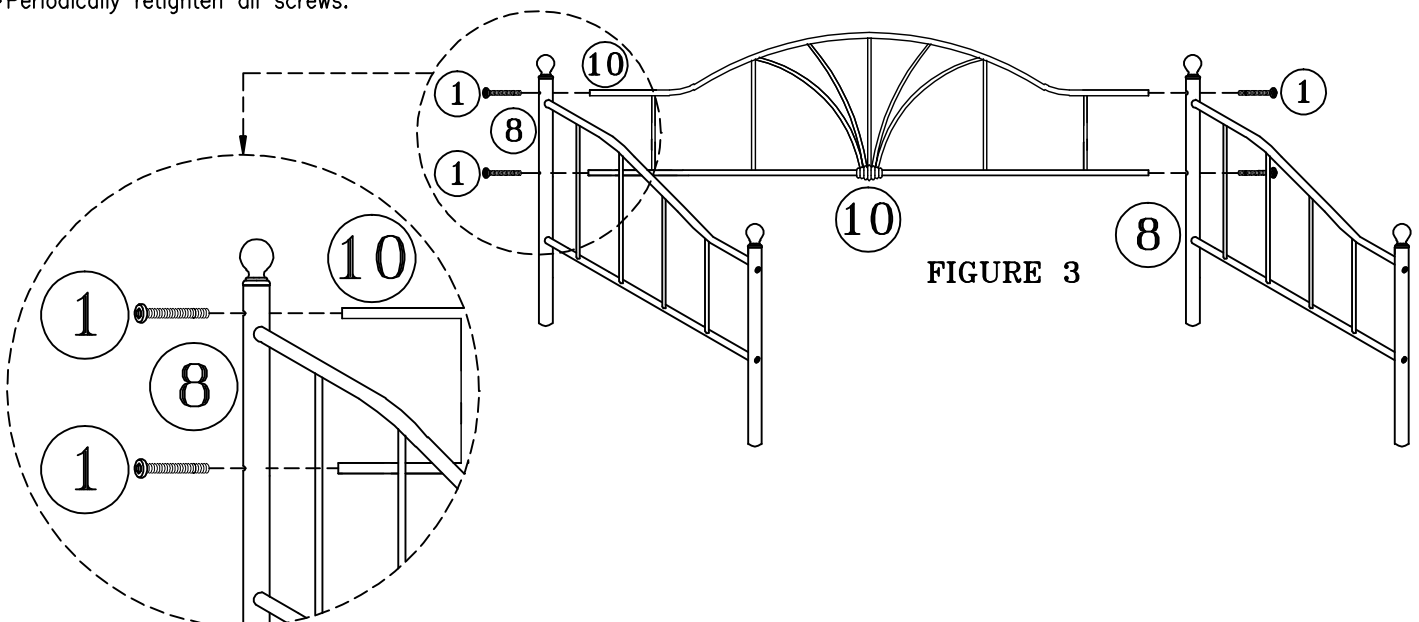

FIGURE 3
- Align back rails end (10) to holes in side panel back post (8). SEE FIGURE 3
- Insert screw (1) through holes on opposite side of post into back panel rails.
- Hand tighten. DO NOT TIGHTEN screws all the way use allen wrench (5).